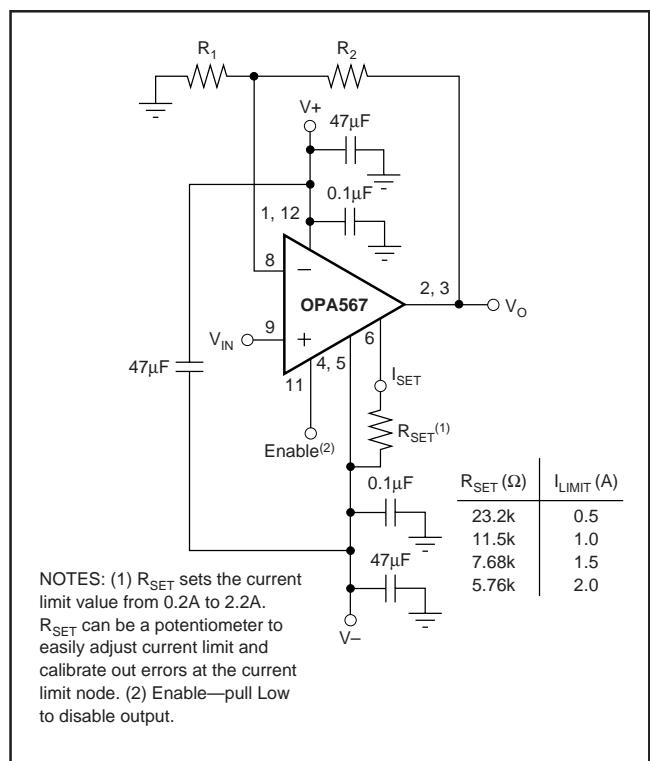

FIGURE 1. Basic Connections.
(1) See typical characteristic, *Maximum Output Voltage vs Frequency*.
(2) See typical characteristic, *Total Harmonic Distortion + Noise vs Frequency*.
(3) Swing to the rail is measured in final test. Under those conditions, the A_{OL} is derived from characterization.
(4) See Safe Operating Area (SOA) plots.
(5) See typical characteristic, *Overshoot vs Load Capacitance*.
(6) See the *Typical Characteristics* section. Higher frequency output impedance can affect frequency stability.
(7) External current limit setting resistor is required; see Figure 1.
(8) I_{LIMIT} is the value of the desired current limit and is equal to $9800(I_{\text{SET}})$, where I_{SET} is the current through the I_{SET} pin. I_{LIMIT} tolerance is proportional to the ratio of $I_{\text{LIMIT}}/I_{\text{SET}}$. Errors from this parameter can be calibrated out—see the *Applications Information* section.
(9) V_{SET} is a voltage reference that equals the difference between the voltage of the I_{SET} pin and V_- , and is referenced to the negative rail. Errors from this parameter can be calibrated out—see the *Applications Information* section.
Figure 1 shows the OPA567 connected as a basic non-inverting amplifier. However, the OPA567 can be used in virtually any op amp configuration. A current limit setting resistor (R_{SET} , in Figure 1) is essential to the OPA567 operation, and cannot be omitted.